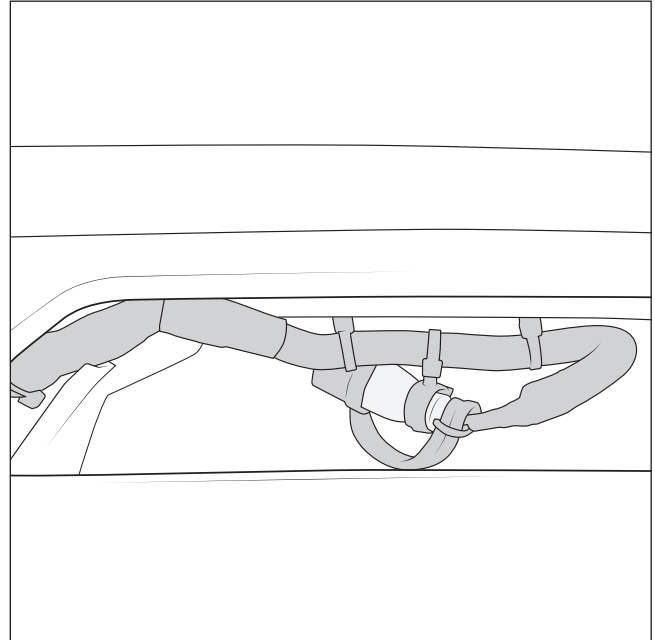

Figure 2
2. Disconnect the block heater plug from the bumper, if equipped (fig. 2).